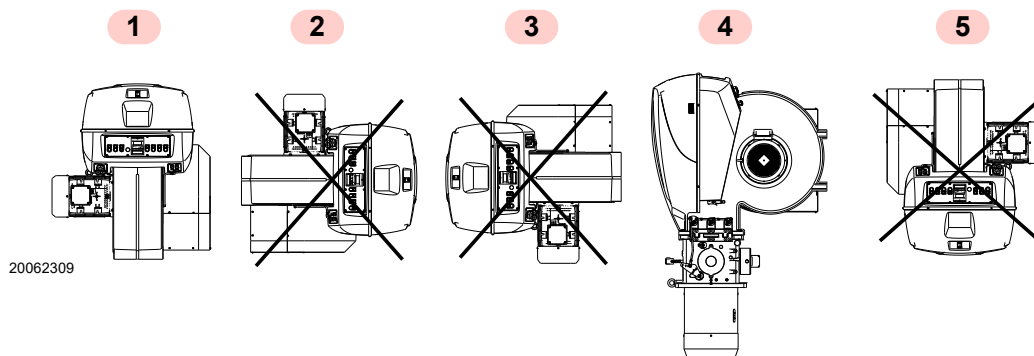

Fig. 9
- The burner is designed to operate only in positions 1 and 4 (Fig. 9).